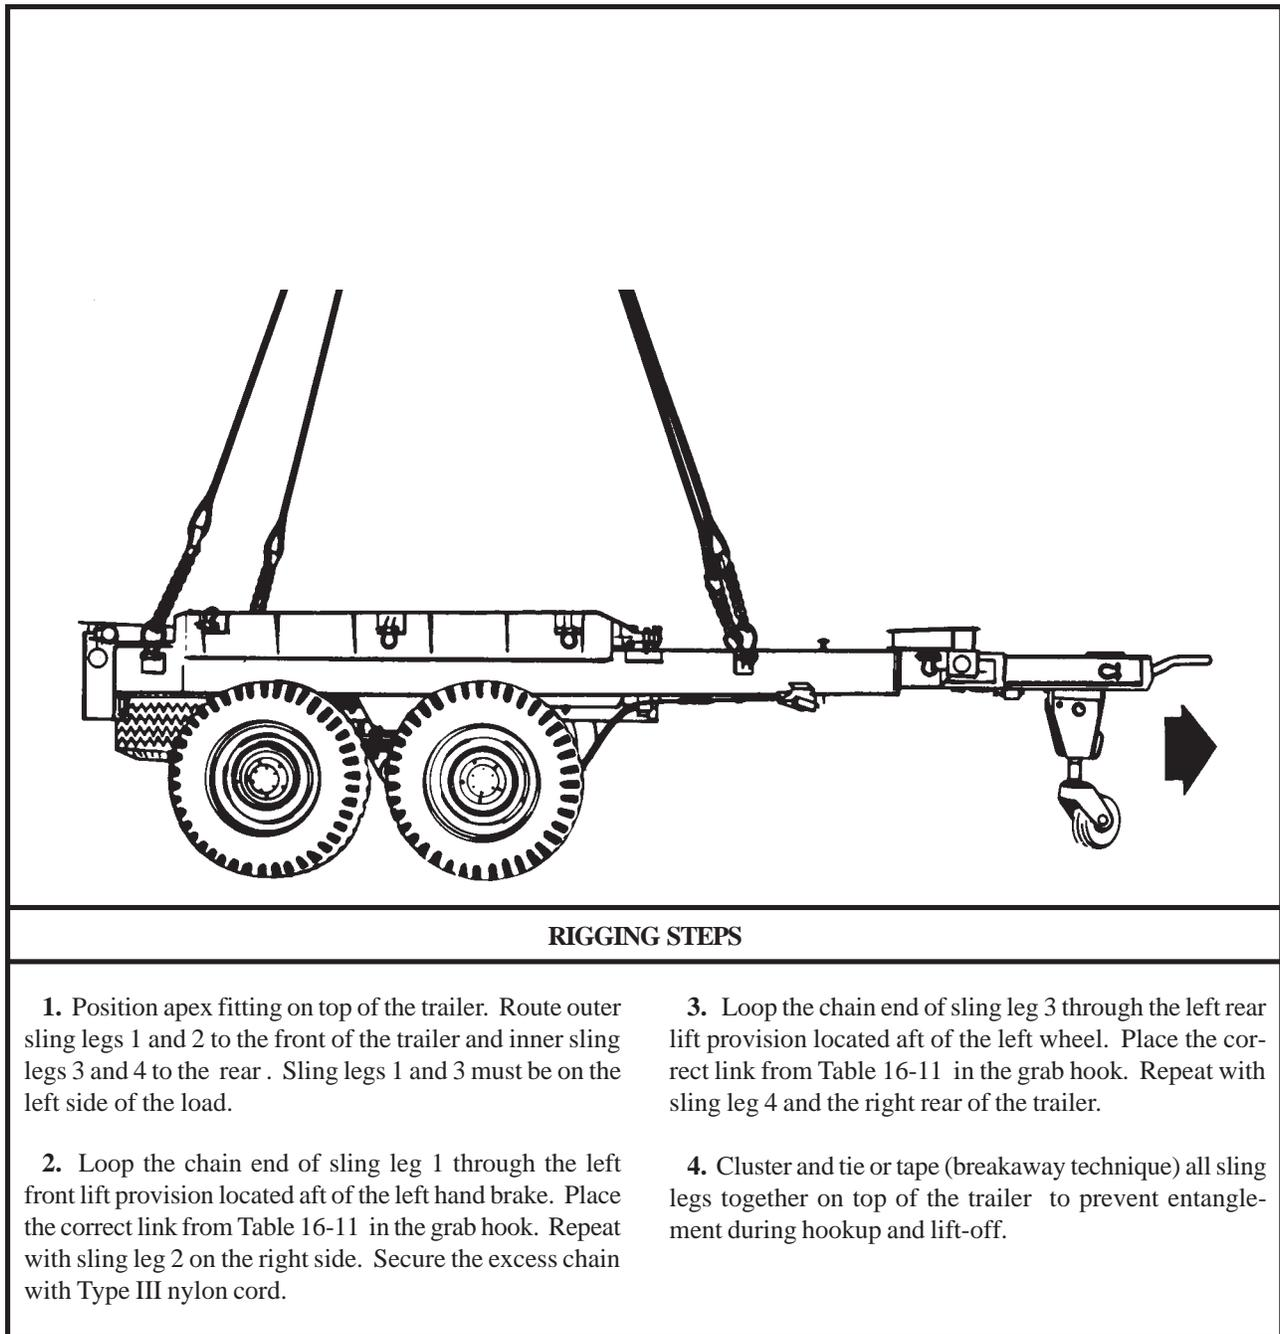

Figure 16-11. M796 Trailer Bolster
(2) **Rigging.** Rig the load according to the steps in Figure 16-11.
(4) **Derigging.** Derigging is the reverse of the preparation and rigging procedures in steps d (1) and d (2).